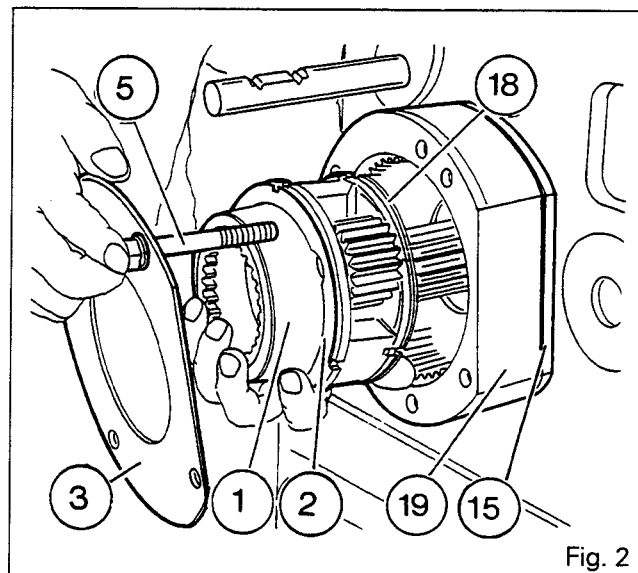

Fig. 2
14. Refit planetary gears (9). Apply miscible grease («Amber Technical» or equivalent) to needle rollers(10) when mounting.
15. Refit sector plates (13) and (14).
16. Refit pins (12), making sure they are oriented properly to allow for circlip (16) mounting.
17. Mount circlip (16). Move each planetary gear by hand to check end play and free rotation.
18. Install creeper gearbox (Fig. 2). Set backing disk (15) and ring gear (19) on casing.
19. Apply miscible grease on thrust washers (2) and (18) and set them on planetary carrier (4).
21. Set backing disk (3). Torque screws (5) to 34 - 52 Nm.